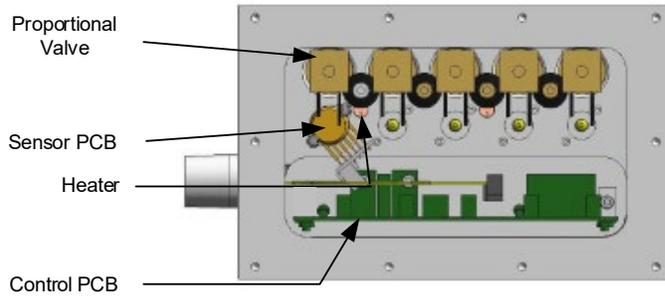

Fig. 8.16. EPC Control Assembly
8.4 EPC control assembly (see Figure 8.16)